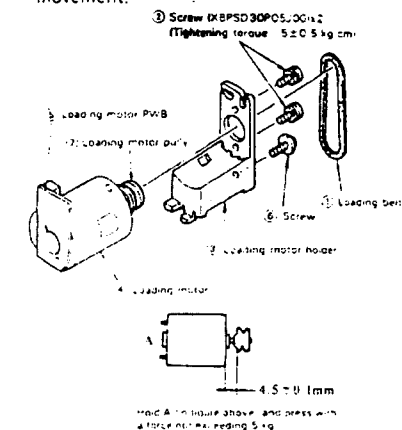

Figure 1-29
• Replacement (Fig. 1-29)
3. Remove the loading belt ①.
4. Remove the cup-tight screw ② (XHPSD30P06WS0). Tilt the mechanism chassis for easy removal.
5. Remove the two screw ③ (XBP30P05J00) and remove the loading motor ④ from the loading motor holder ⑤.
6. Remove the loading motor PWB ⑥.
7. Replace the loading motor along with the pulley ⑦.